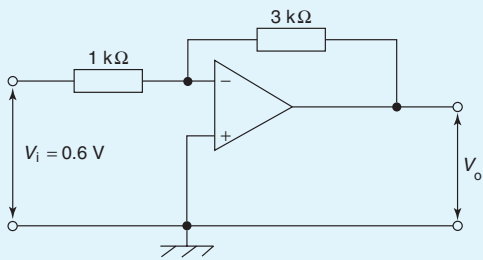

Figure 19.26
- The output voltage, V_o , in the amplifier shown in Fig. 19.26 is:
- The $3 \text{ k}\Omega$ resistor in Fig. 19.26 is replaced by one of value $0.1 \text{ M}\Omega$. If the op amp has an input bias current of 80 nA , the output offset voltage is: